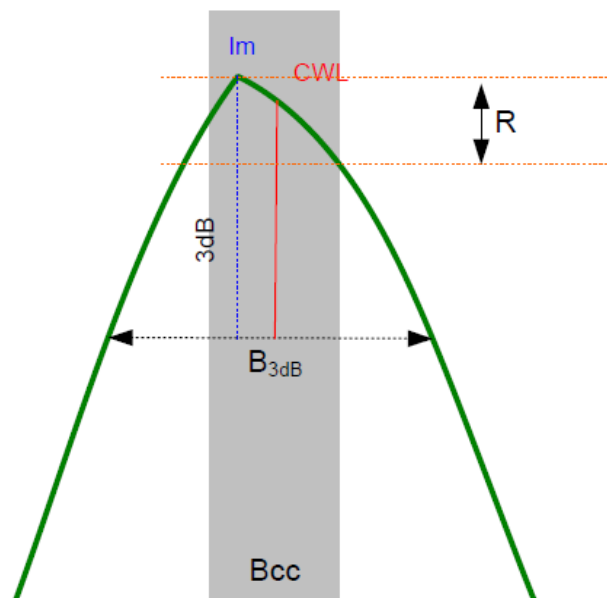

Fig. 4.1, Definitions of bandwidth, insertion loss, and ripple for a through channel
- **Insertion Loss at Peak [I_m]** is defined as insertion loss at maximum transmission within the channel passband bandwidth, without connector loss. Measured at output fiber, as shown in Figure 4.1.